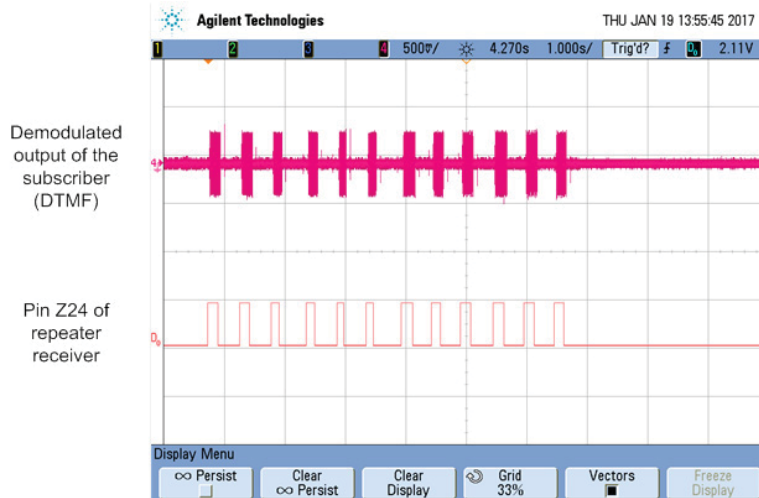

Figure 6: Oscilloscope showing DTMF output on Pin Z24 (Good Tune)
14. Figure 6 shows what the output at Pin Z24 looks like when it is tuned correctly for a particular subscriber.
16. Make the adjustment to the Detection Threshold for First Harmonics and/or the Input Audio Sample Gain so that the result looks like Figure 6. Be sure to go through all possible DTMF tones.